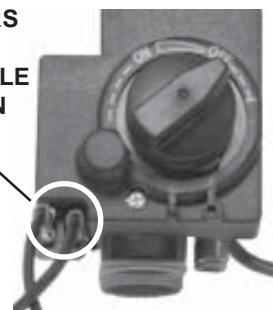

Figure 1
**Step 1.** Attach the supplied wires with female connectors to their proper mating terminals on the valve (See Figure 1).